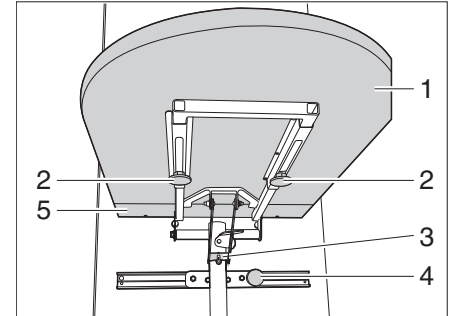

Fig. 41 Folding table, table leg holder
- Loosen two knurled screws (Fig. 41,2) and slide the table-top (Fig. 41,1) forwards.
- Remove the table-top extension (Fig. 41,5) from the table-top.
- Raise the table-top upwards and hang out the support (Fig. 41,3).
- Swivel the table-top (Fig. 41,1) downwards.
- Loosen the knurled screw (Fig. 41,4) and move the folding table into the desired position.
- Retighten the knurled screw (Fig. 41,4).